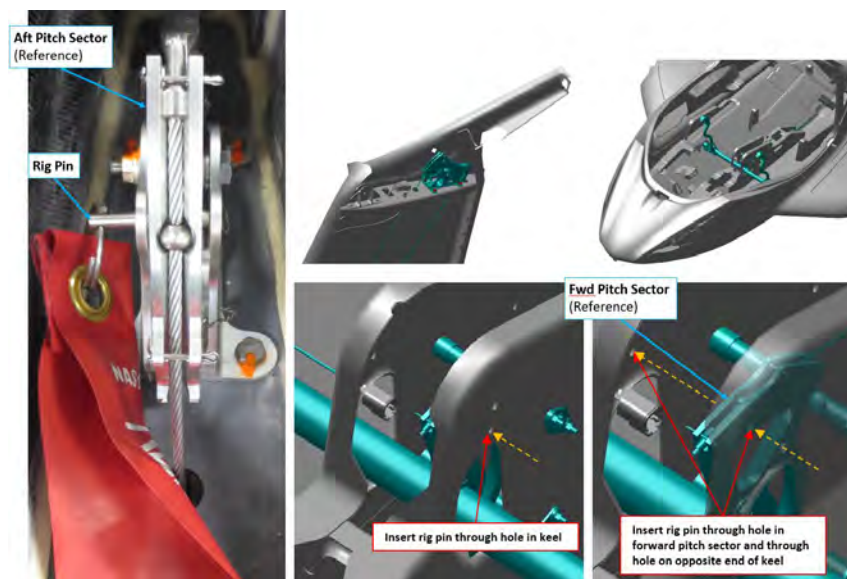

FIGURE 10-33
8. Install .250 in diameter rig pin through the center console and forward pitch sector. See Figure 10-33.
9. Install .1875 in diameter rig pin through the aft pitch sector in the vertical tail. See Figure 10-33.
12. Remove rig pin in the aft pitch sector in vertical tail. See Figure 10-33.
20. Remove the FWD pitch sector rig pin. See Figure 10-33.